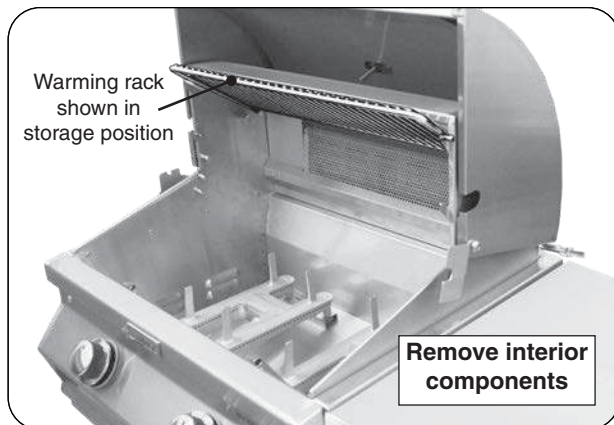

Fig. 31-1 Prepare grill for rotissing
1. On the gas side of the grill, set the warming rack to storage position, remove the backburner cover and cooking grids (see Fig. 31-1).